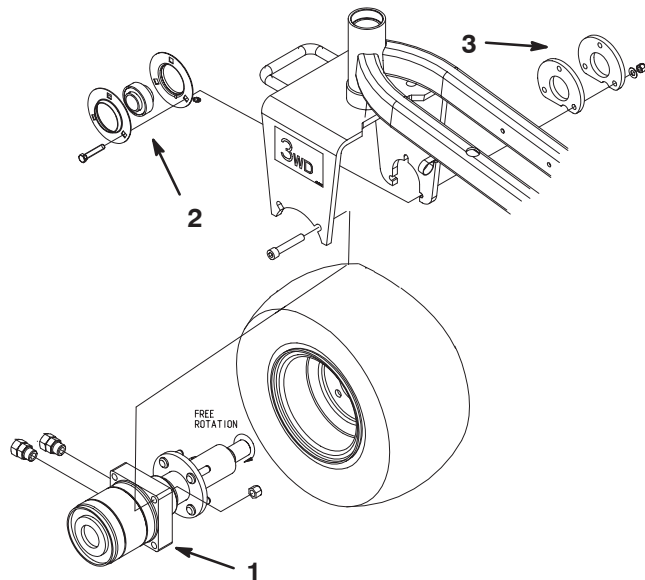

Figure 4
3. Insert flangettes and bearing onto end of motor shaft as shown in Figure 4.
4. Mount the (2) straight fittings to the side of the motor assembly (Fig. 4).
5. Position the motor hub, flangettes with bearing and tire assembly into castor fork. Ensure that ports on motor face rearward (Fig. 4).
6. Loosely secure motor to the inside of castor fork with (2) socket-head screws and (2) nuts (Fig. 4).
8. Loosely assemble flangettes with bearing to inside of castor fork with (3) new 3/8 x 2 in. screws, (2) spacer mounts, (3) 13/32 x 13/16 hardened washers and (3) 3/8 in. locknuts.
Note: The grease fitting must be in the downward position on the flange (Fig. 4)